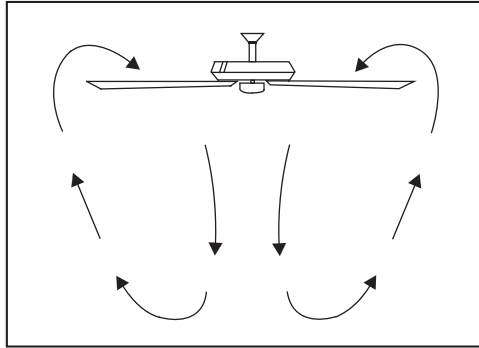

Figure 22
**Warm weather** - (Counter-Clockwise direction) A downward air flow creates a cooling effect.(Fig. 22) This allows you to set your air conditioner on a higher setting without affecting your comfort.